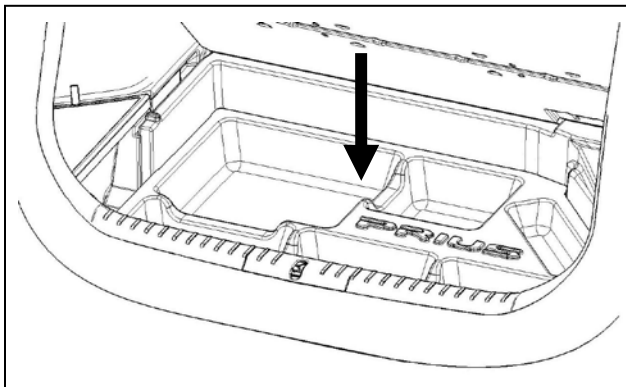

Fig. 1-4
- (d) Push down gently to seat sub-floor organizer in bottom of compartment as shown. (See Fig. 1-4)